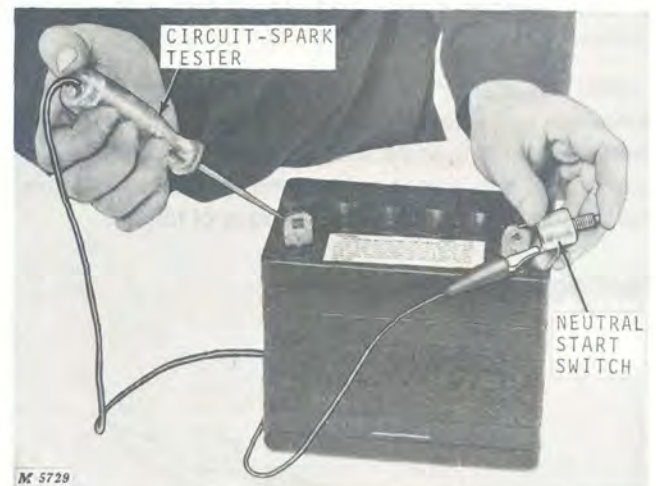

Fig. 9-Testing Safety Switches
1. Connect circuit test light lead to switch terminal. Place switch and tester on battery terminals, Figure 9.